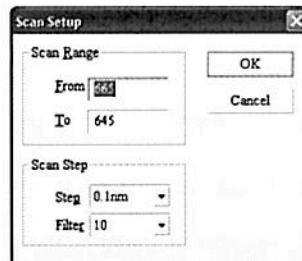

Fig. 4-11
2. Click  on the toolbar, appears the following form (Fig. 4-11). Input start wavelength in From box (range: 190-1100nm), end wavelength in To box (range: 190-1100nm), select scan interval (0.1, 0.2, 0.5, 1.0, 2.0 or 5.0nm) and Filter times (1, 3, 5, 10 or 30), click OK.